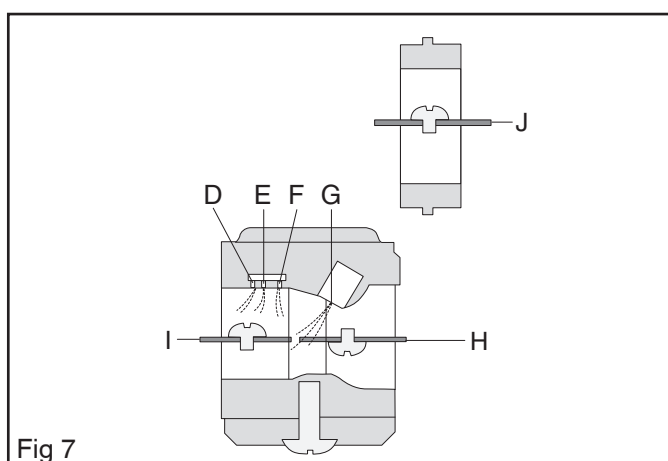

Fig 7
In full throttle mode (See Figure 7) all valves are open and fuel is supplied through all diffuser jets (D, E, F and G). Extra air inlet (J) is also fully opened. See Figure 7.